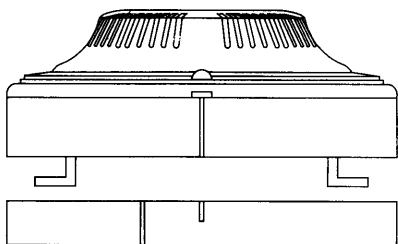

Figure 4 Alignment of detector head and its base
- (1) Align up the position of head to the base, see Figure 4.
- (2) Screw the detector head into the base in clockwise direction.